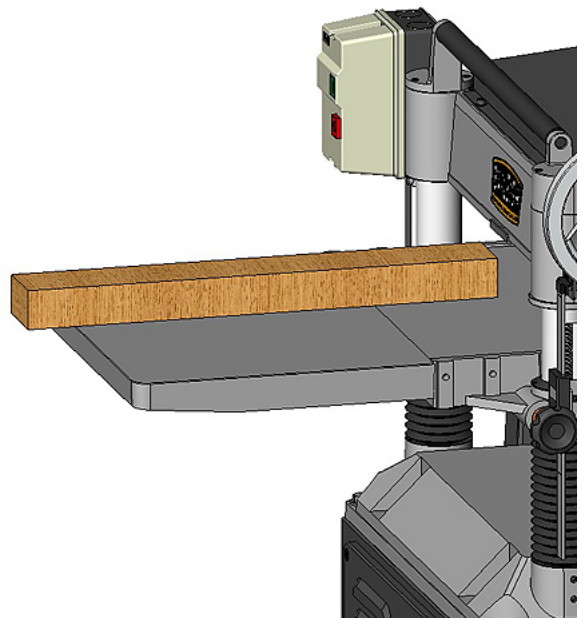

Fig. 3
3. With the fasteners in position and snug, place straight edge through machine so that it lies across the main table and extension table. (Fig. 3).